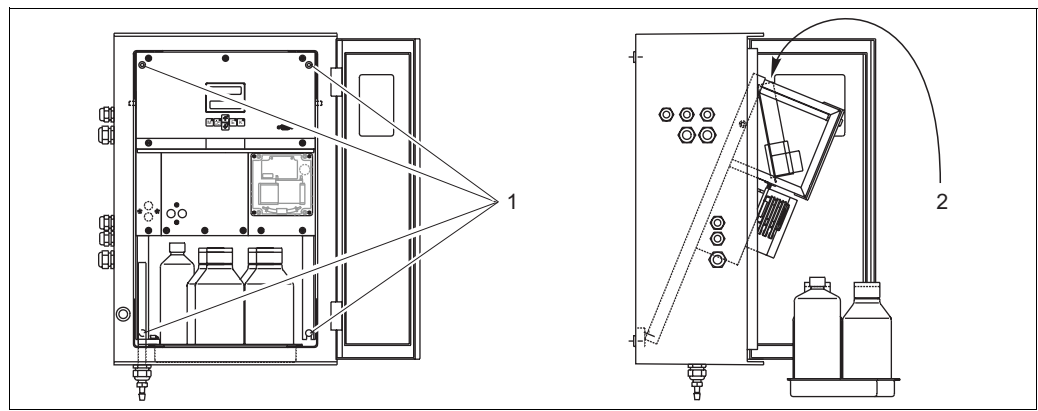

Fig. 13: Swing out of the analyser frame
1. Loosen the two lower Allen screws SW 6 by 3 to 4 turns (Fig. 13, pos. 1).
2. Unscrew the two upper Allen screws until the analyser frame swings out. Thus you can reach the terminal strip (pos. 2).